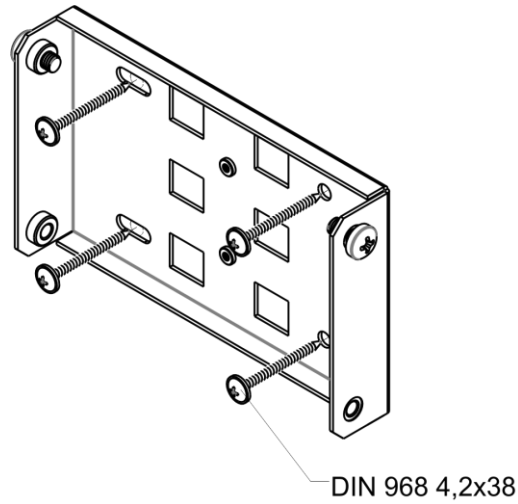
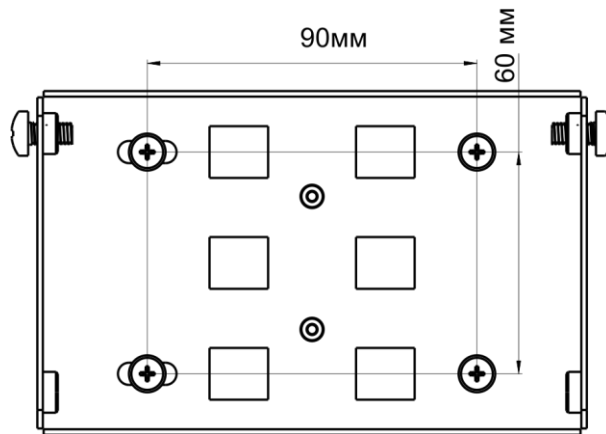

Figure 11 – Attaching bracket to the wall
Figure 12 – Distance between boltholes
- a. Figure 11 shows bracket allocation on the wall. Figure 12 shows distance between the boltholes.
- c. Install DIN7985 M6 screws in the top holes. Do not screw them fully. Leave 3 mm gap as minimum, see Figure 11.